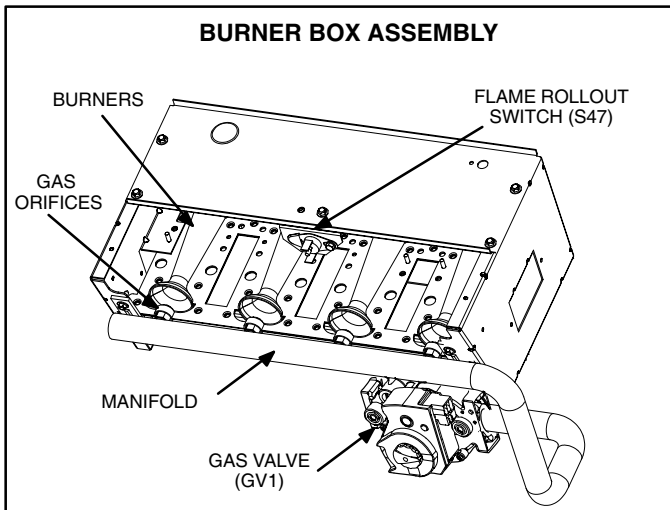

FIGURE 11
4. Burners / Gas Orifices (Figure 11)
Flame rollout switch S47 is a SPST N.C. high temperature limit located on the top side of the burner box assembly (see figure 11). S47 is wired to the burner ignition control A92. When S47 senses flame rollout (indicating a blockage in the combustion passages), the flame rollout switch trips, and the ignition control immediately closes the gas valve. Switch S47 in all G41UF units is factory preset to open at $280^{\circ}\text{F} \pm 12^{\circ}\text{F}$ ($138^{\circ}\text{C} \pm 6.7^{\circ}\text{C}$) on a temperature rise. All flame rollout switches are manually reset.